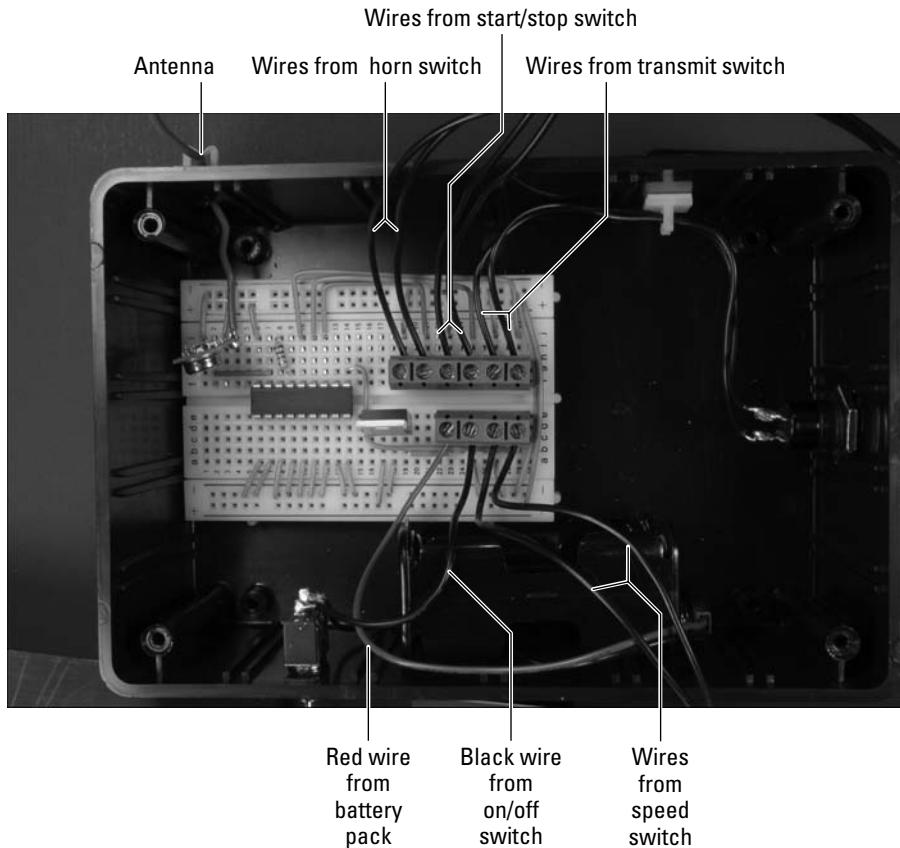

Figure 13-17:
6. Secure the breadboard and battery pack in the box with Velcro, as shown in Figure 13-17.
7. Attach the wires from the battery pack, on/off, transmit, speed, horn, and start/stop switches to the terminal blocks, as shown in Figure 13-17.